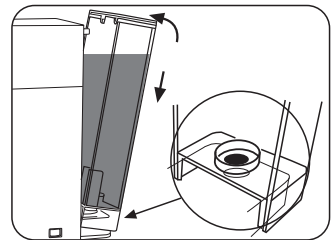

Fig.3
- Reinstall the tank by slightly tilting and resting it on the water valve (Fig.3)